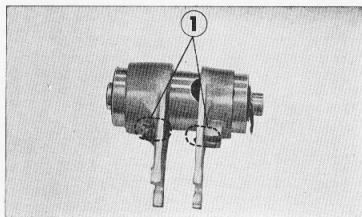

Figure 49. ① Guide pin clip
1. Make sure that the guide pin and guide pin clip are properly installed on the gear shift drum clip for both the right and left shift forks. (Fig. 49)